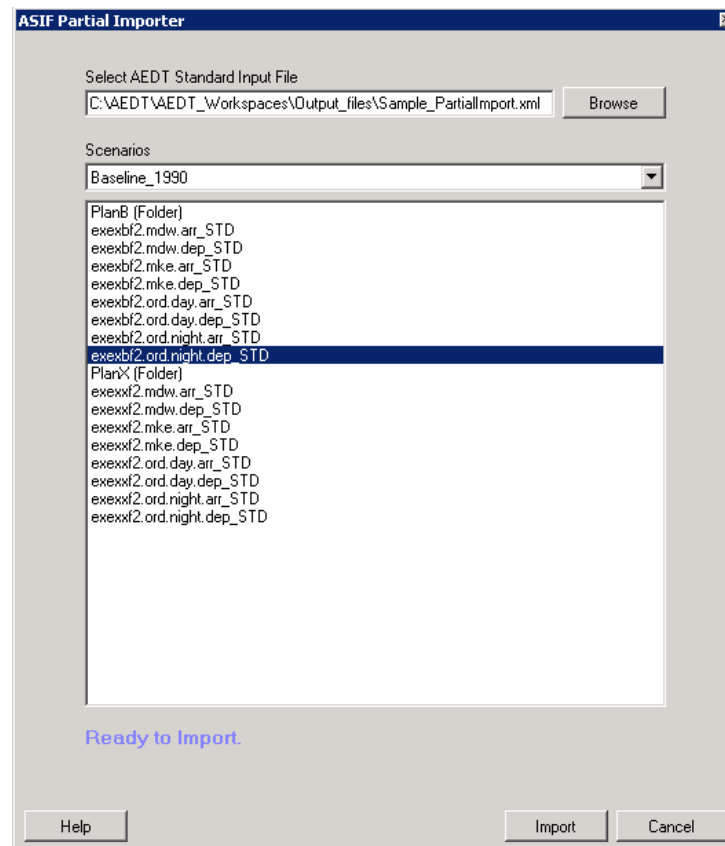

Figure 5-2 ASIF Partial Importer Dialog Box
1. From the menu bar select *File, Import* to open the *ASIF Partial Importer* dialog box (Figure 5-2).